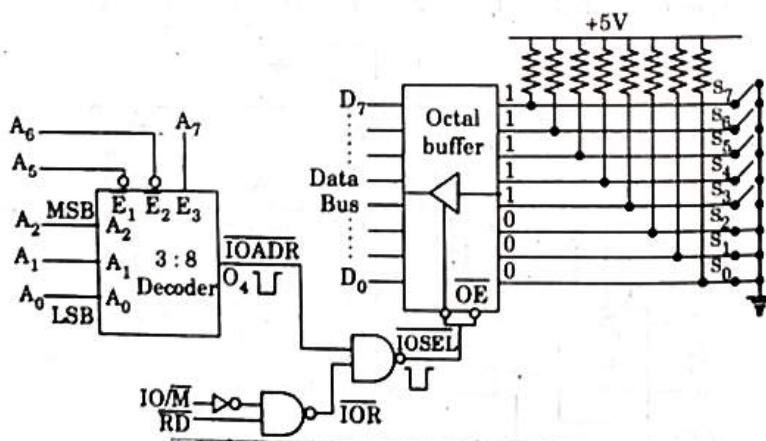

Fig. 1.27.1. Interfacing DIP switches.
2. Consider an eight DIP switches interfaced using 3:8 decoder. The circuit used for interfacing eight DIP switches is shown in Fig. 1.27.1.